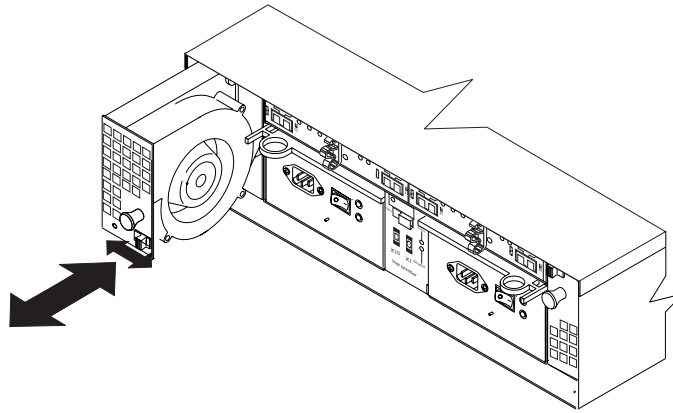

Figure 20. Removing a fan unit
2. Grasp the handle and pull the fan unit out of the bay, as shown in Figure 20.